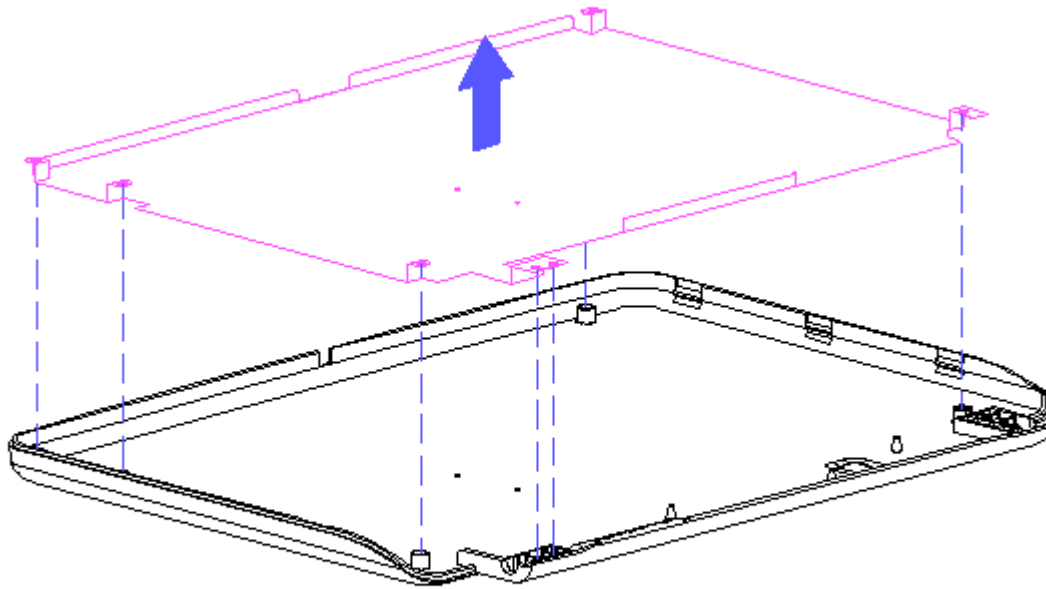

Figure 3-22. Removing the Display Shield
5. Remove the display shield by lifting it out of the display enclosure (Figure 3-22).